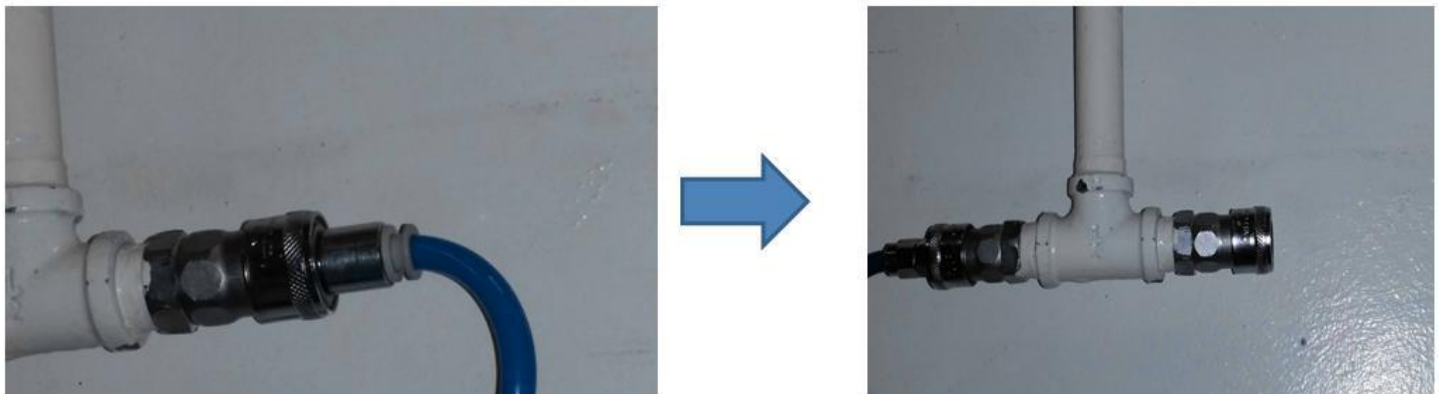

Figure 4 Air Pressure Input Removal
- Unplug the Incoming Air Pressure Input as below Figure 4.